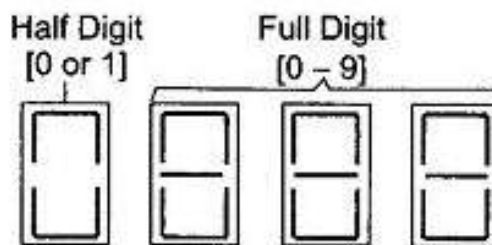

Fig. 2.6 $3\frac{1}{2}$ -Digit Display
- The $3\frac{1}{2}$ digit display is shown in Fig. 2.6